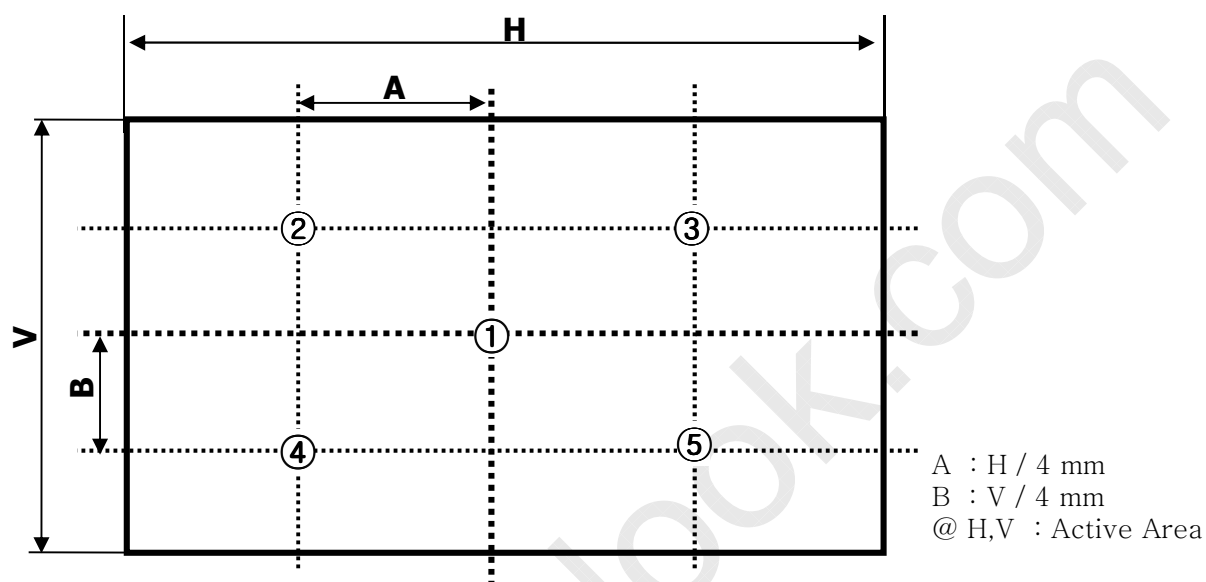

FIG. 2 Measure Point for Luminance
- Surface luminance are determined after the unit has been 'ON' and 1 Hour after lighting the backlight in a dark environment at $25 \pm 2^\circ\text{C}$. Surface luminance is the luminance value at center 1-point across the LCD surface 50cm from the surface with all pixels displaying white. For more information see the FIG. 2.
Where L_{on1} to L_{on5} are the luminance with all pixels displaying white at 5 locations . For more information, see the FIG. 2.